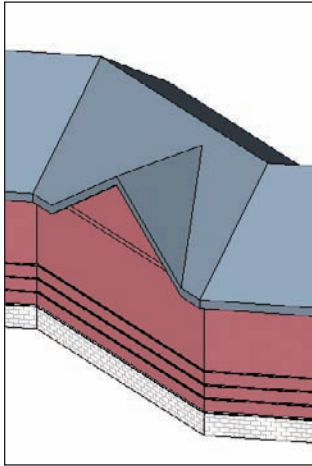

FIGURE 7.64 The completed roof dormer
10. Go to a 3D view to check out the dormer. It should look identical to Figure 7.64.